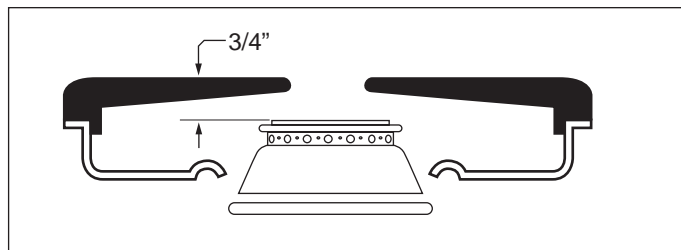

Figure 24
**NOTE:** Check the height of the burner in relation to the grate before making any adjustment. The product must have  $\frac{3}{4}$ " from the top of the burner to the top of the grate. If the burner is too close to the grate, check for a bent burner and/or bracket, deformed burner box or incorrect grates. (See Figure 24)